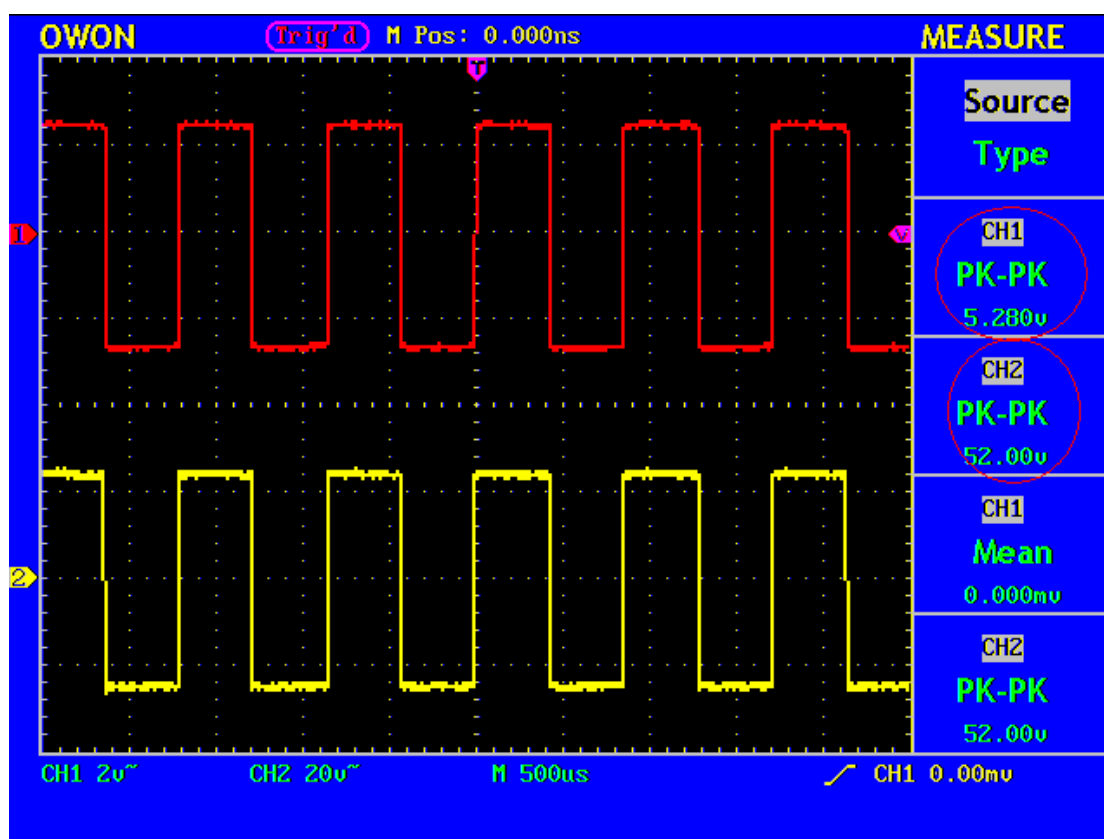

Fig. 91 Wave Form of Gain Measurement
10. Read the peak-to-peak values of Channel 1 and Channel 2 from the displayed menu (see Fig. 91).